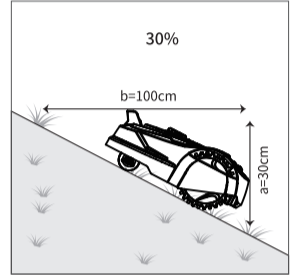

Fig.3-1
- Level and flat working area, no ditch or trench, slope less than 30% (Fig.3-1)